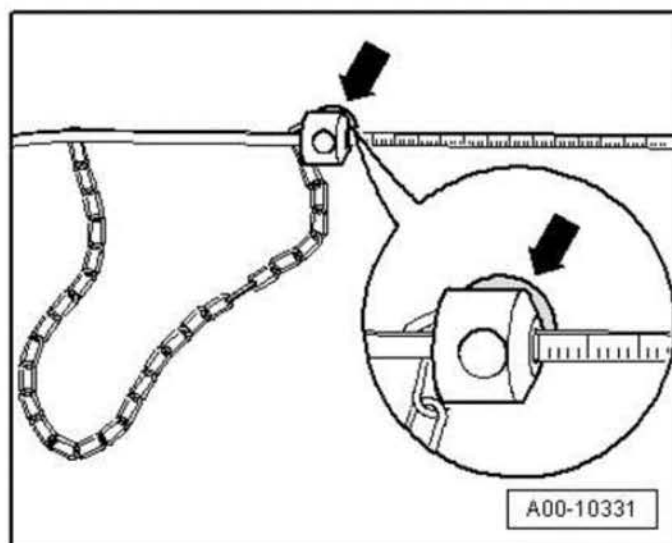

Figure 1. Adjusting the tool.
- Adjust the tool according to Elsa (Figure 1).